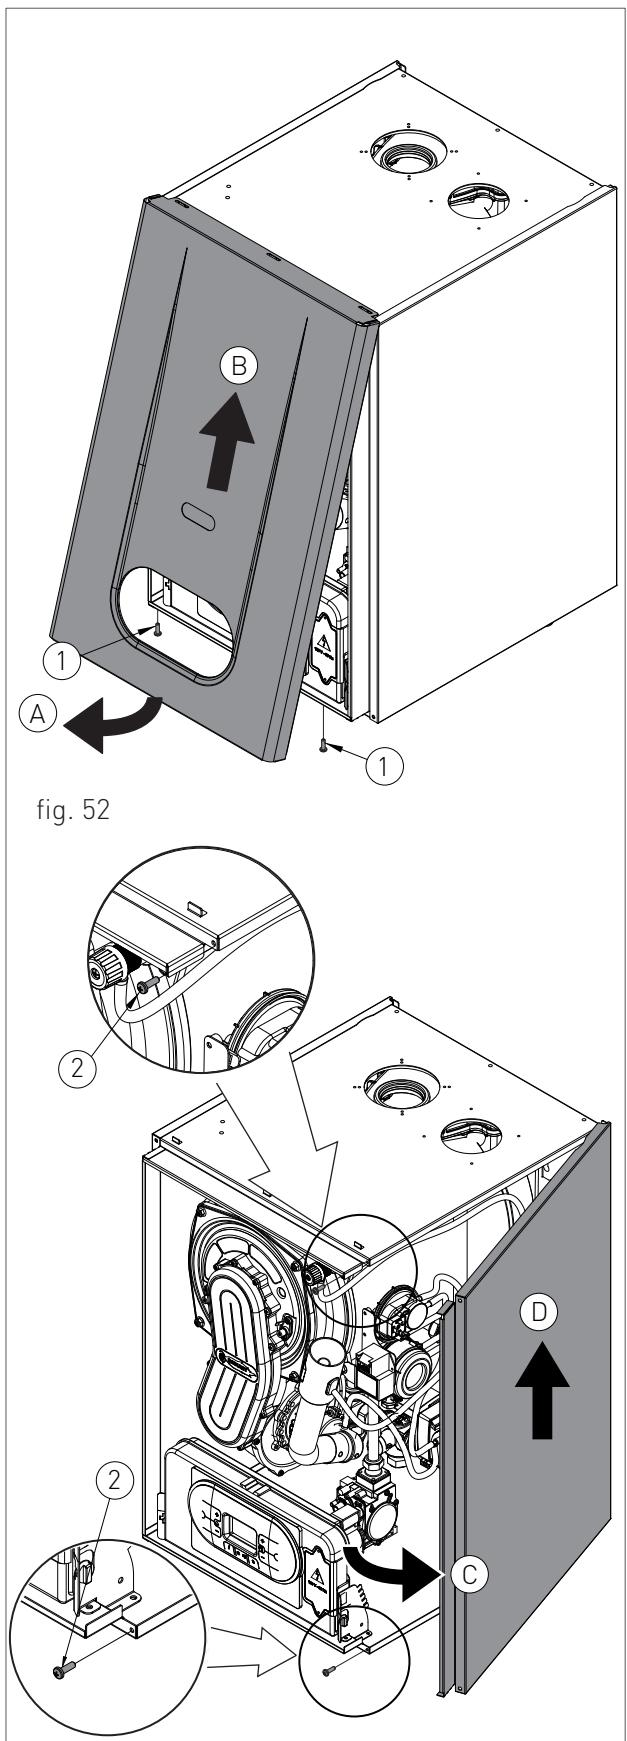

fig. 52
- › remove the fastening screws (1 - fig. 52) placed on the lower edge of the front panel;
- › grab the front panel from the bottom and remove it pulling it towards you A and then upwards B (see fig. 52).
- › remove the fastening screws (2 - fig. 52) placed on the front edge of the side panel;
- › grab the bottom of the panel and remove it by moving it sideways C and then pulling it upwards D (see fig. 52).